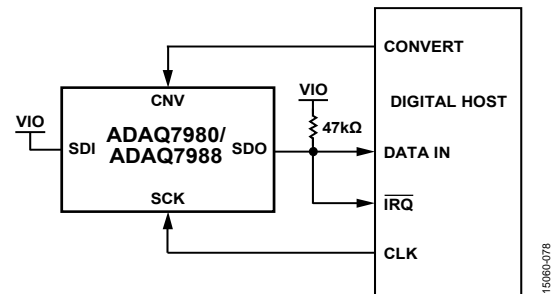
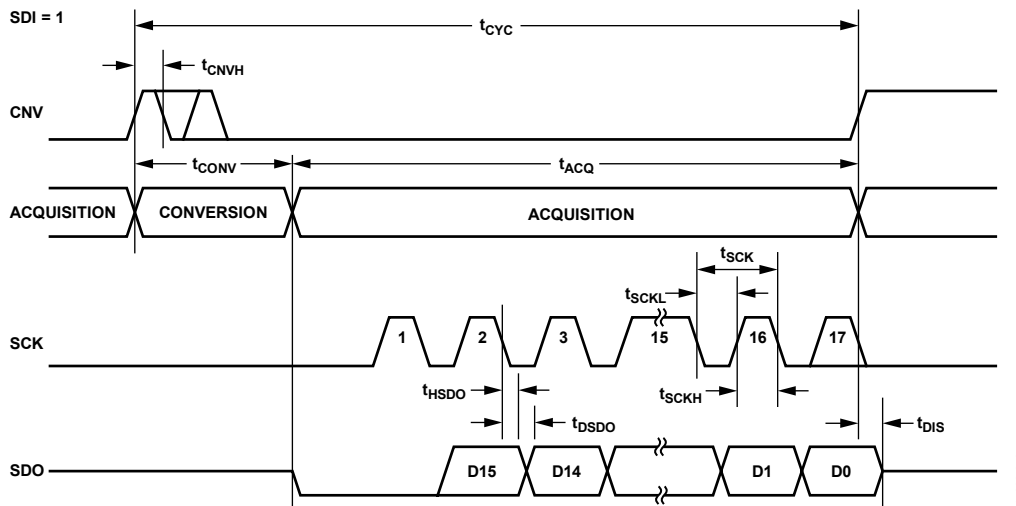
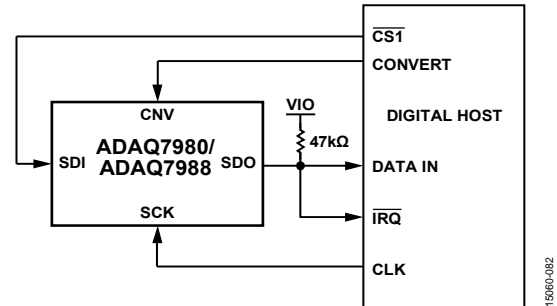
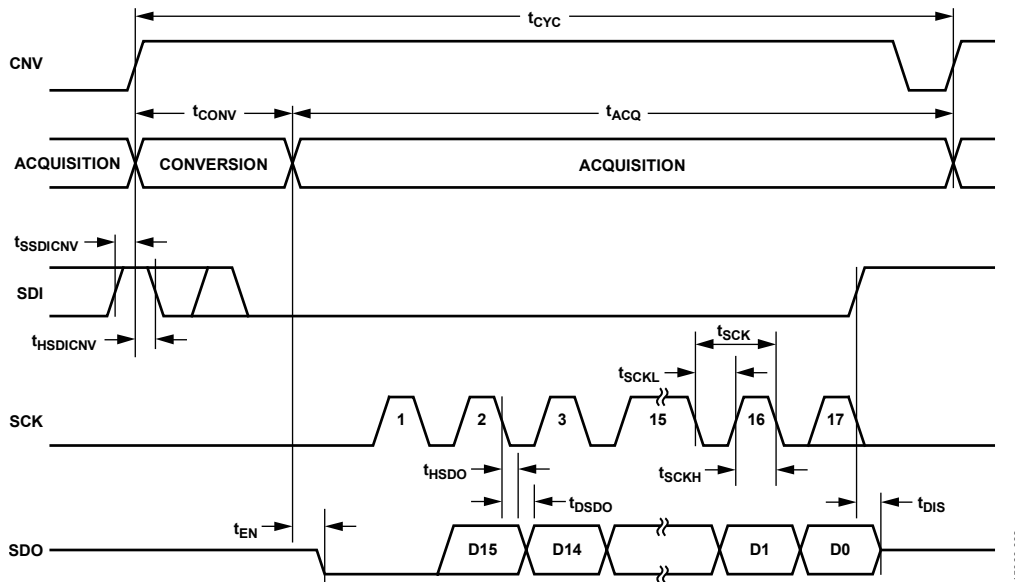

Figure 73. 3-Wire  $\overline{CS}$  Mode with the Busy Indicator Connection Diagram (SDI = 1, High)
Figure 74. 3-Wire  $\overline{CS}$  Mode with the Busy Indicator Serial Interface Timing (SDI = 1, High)
Figure 77. 4-Wire  $\overline{\text{CS}}$  Mode with the Busy Indicator Connection Diagram
Figure 78. 4-Wire  $\overline{\text{CS}}$  Mode with the Busy Indicator Serial Interface Timing
- In  $\overline{\text{CS}}$  mode if CNV or SDI is low when the ADC conversion ends (see Figure 74 and Figure 78).
Figure 73 shows the connection diagram, and Figure 74 shows the corresponding timing.
Figure 77 shows the connection diagram, and Figure 78 shows the corresponding timing.